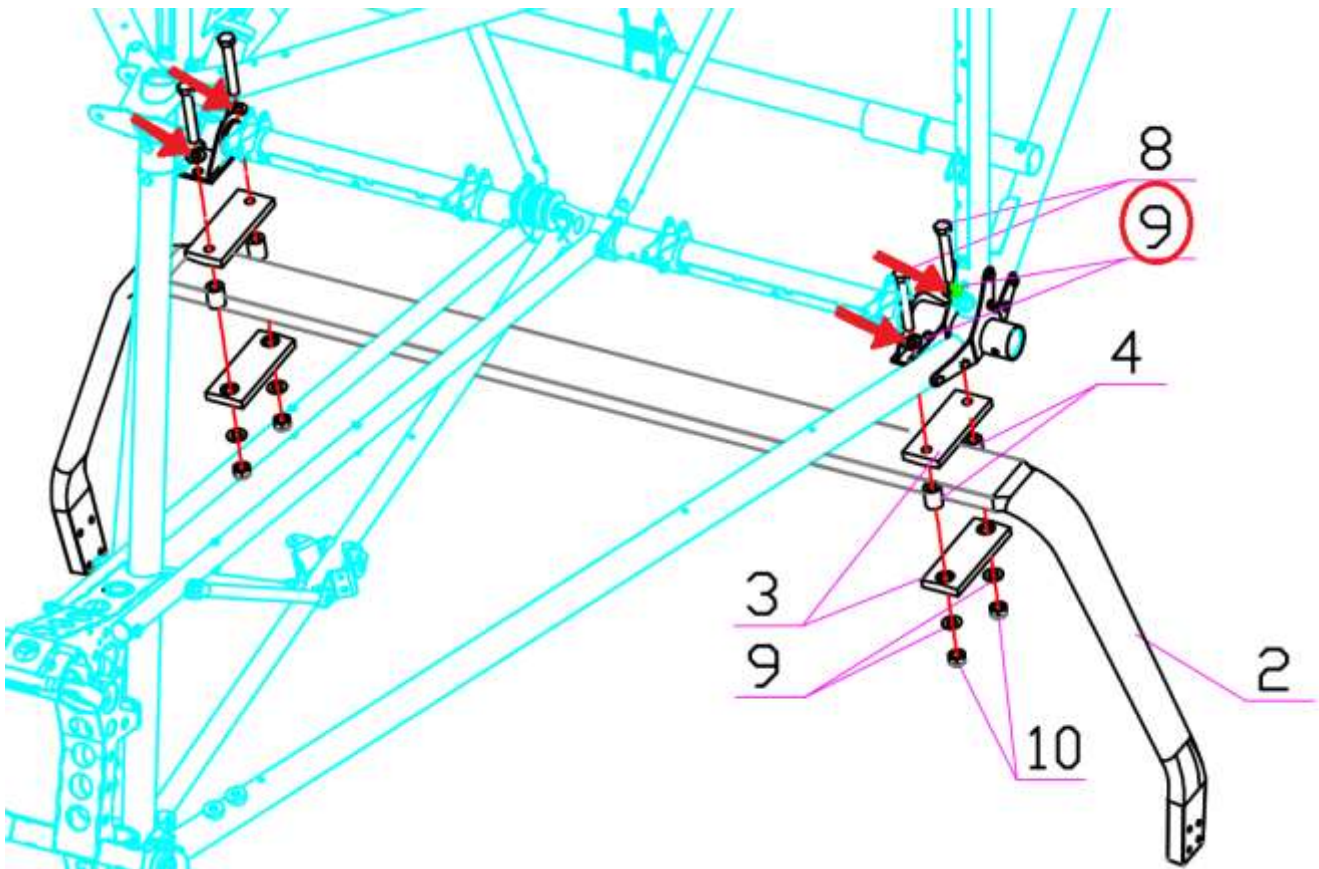

Figure 1: Correct Washer Location
1. All the relevant aircraft radius block assemblies must be inspected at the next maintenance or inspection interval. This can be done before then if the pilot desires. With reference to Figure 1, the washers should be located with one between each bolthead and the bracket, and then one between the lower radius block and the Nyloc nut. This applies to all 4 of the bolts, i.e. 8 washers in total. These are shown by the label '9' in the figure, and the ones that might be incorrectly installed/missing are shown with arrows. Look to see if there are washers installed above the upper radius block between it and the bracket above.